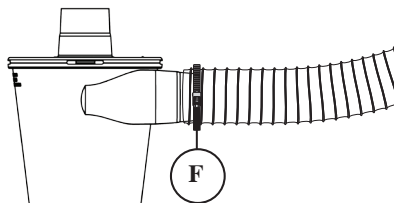
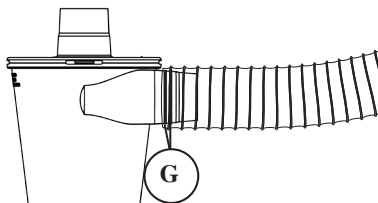

FIG. 6b
FIG. 6c
Note: If your vacuum hose is not tight on the inlet or it keeps pulling off use the Clamp Band (F) and/or the two O-Rings (G) [FIG. 6b] [FIG. 6c].